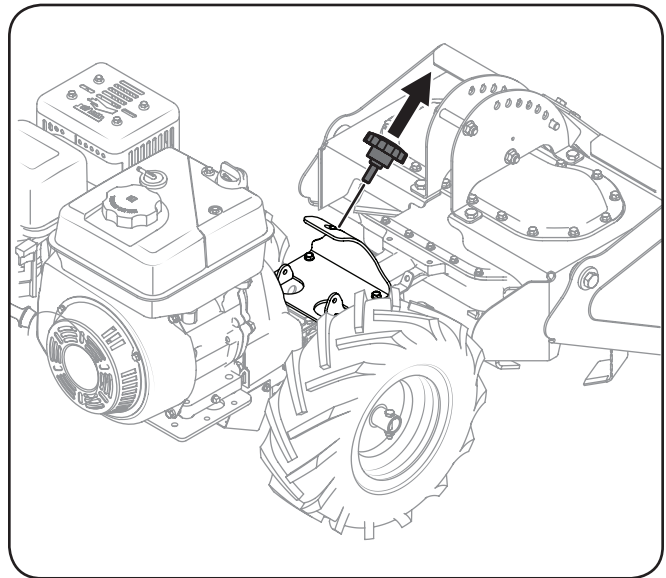

Figure 3-1
2. Remove the star knob from the handle mount bracket. See Figure 3-1.